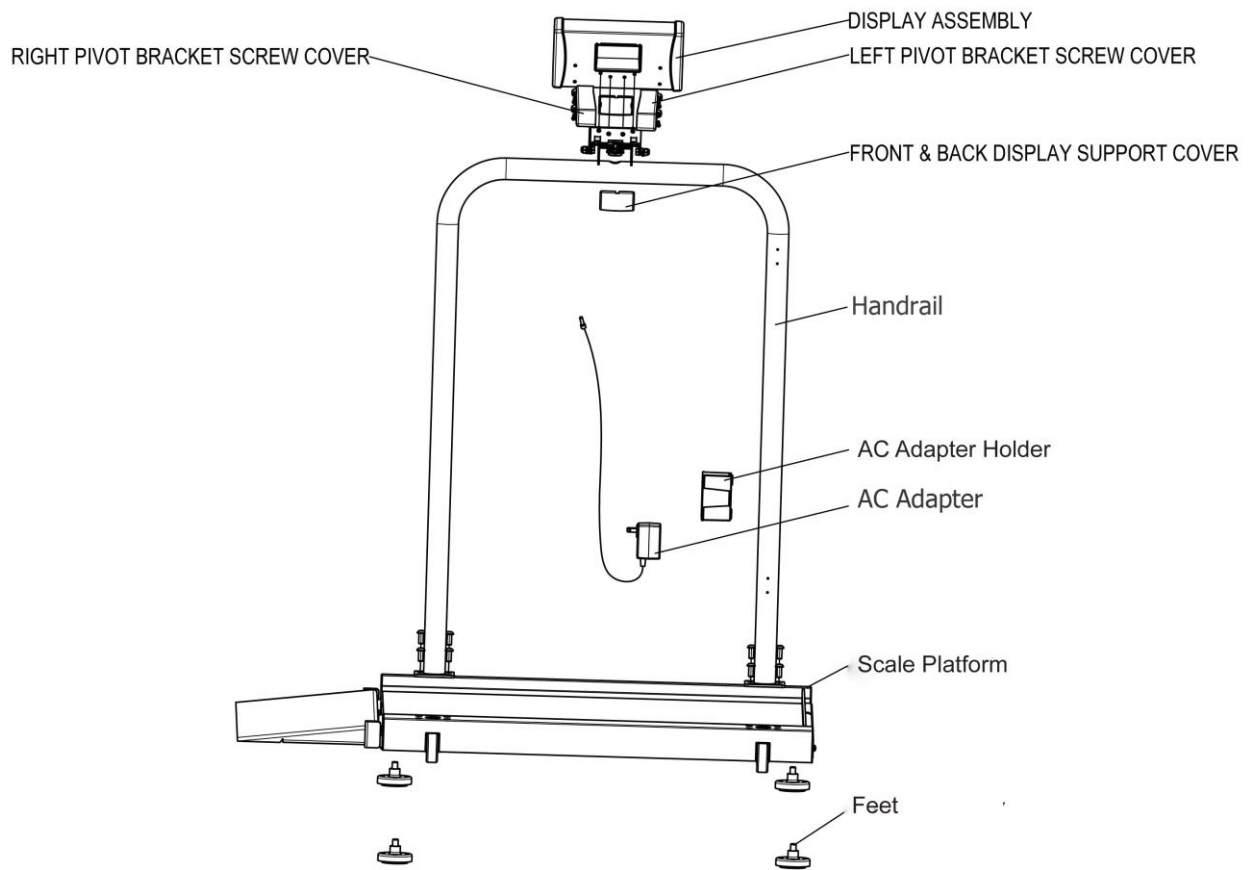

Figure 5
10. Thread the (4) feet into the underside of the platform. Each of the feet should be completely hand tightened. Back feet out 1-½ full turns. This will allow for proper load cell operation and scale accuracy (see Figure 5).